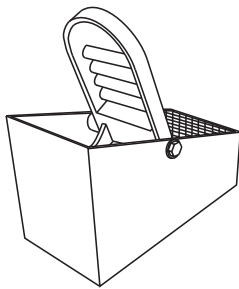

Figure 11. Blade Speed Control Foot Pedal
3. The right foot pedal (Figure 11) controls blade and engine speed. The position of the foot pedal determines the blade speed. Slow blade speed is obtained by slightly pressing the pedal. Maximum blade speed is obtained by fully pressing the pedal.